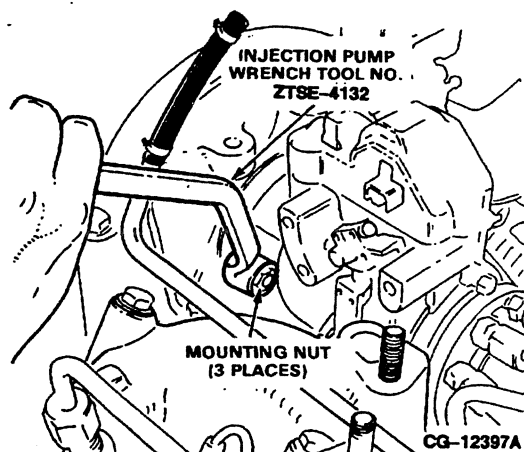

Figure 9.28. Injection Pump Mounting Nut Removal
8. Using injection pump wrench ZTSE-4132, remove injection pump mounting nuts and washers to adapter housing as shown in Figure 9.28.
5. Tighten injection pump mounting nuts using injection pump wrench ZTSE-4132. Refer to Figure 9.28.